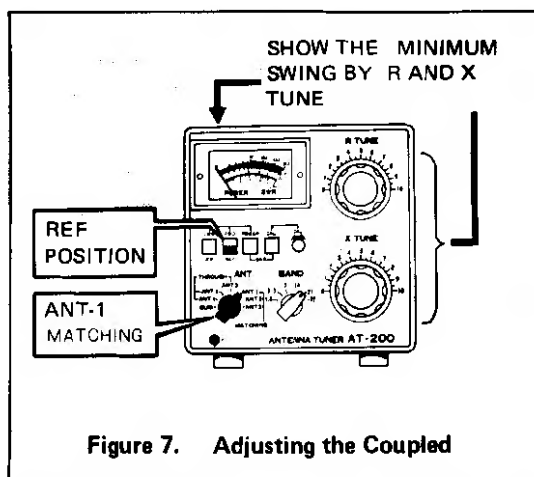

Figure 7. Adjusting the Coupled
- Set the BAND switch to an operating band position as shown in Figure 7.